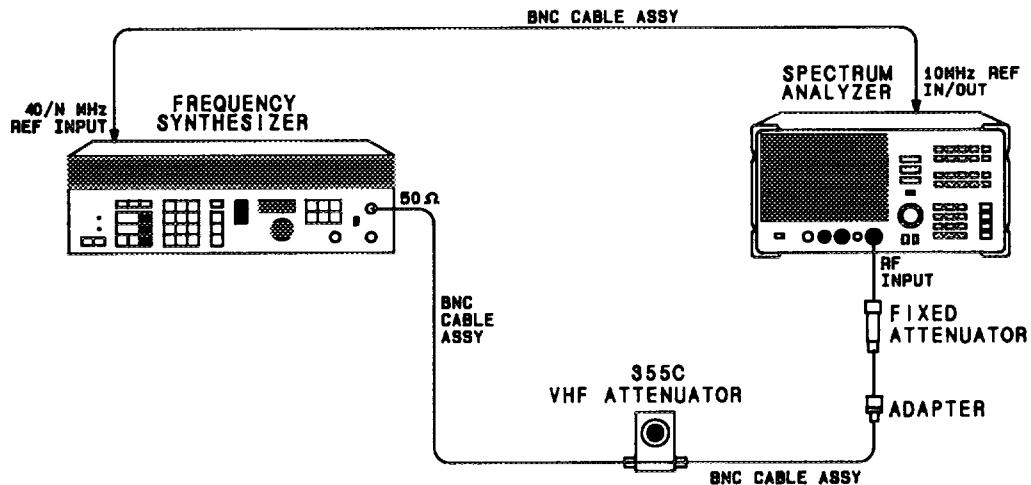

Figure 3-6. Input Attenuator Test Setup, 50 MHz
1. Connect the equipment as shown in Figure 3-6. The HP 8562A/B provides the frequency reference for the HP 3335A.